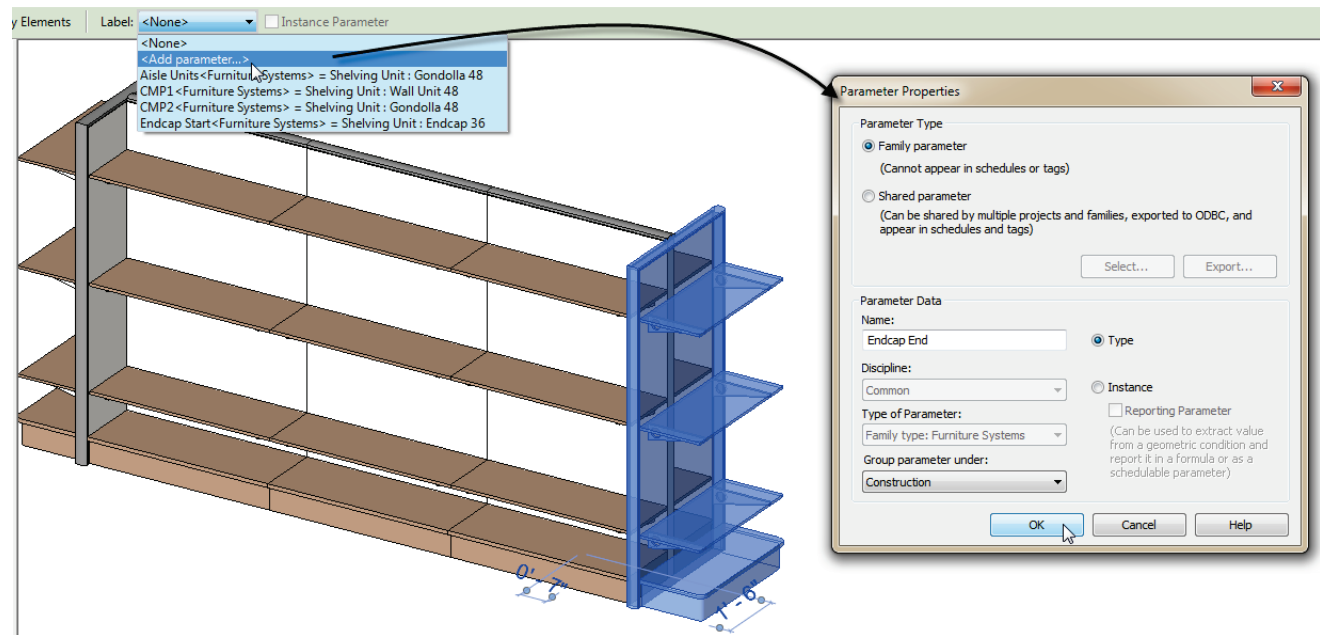

Figure 20—Create a new <Family Types> parameter
4. Call it **Endcap End**, make it a **Type** parameter and group it under **Construction** (see Figure 20).